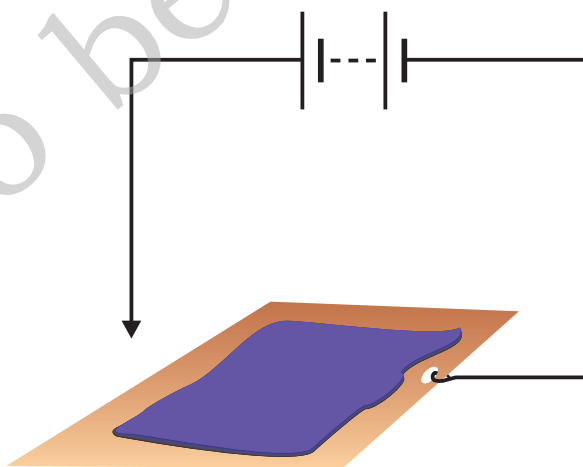

Fig. 14.11
6. You can make a fun pen for yourself. Take a conducting metal plate and spread a moist paste of Potassium Iodide and starch. Connect the plate to a battery as shown in Fig. 14.11. Now using the free end of the wire, write a few letters on the paste. What do you see?